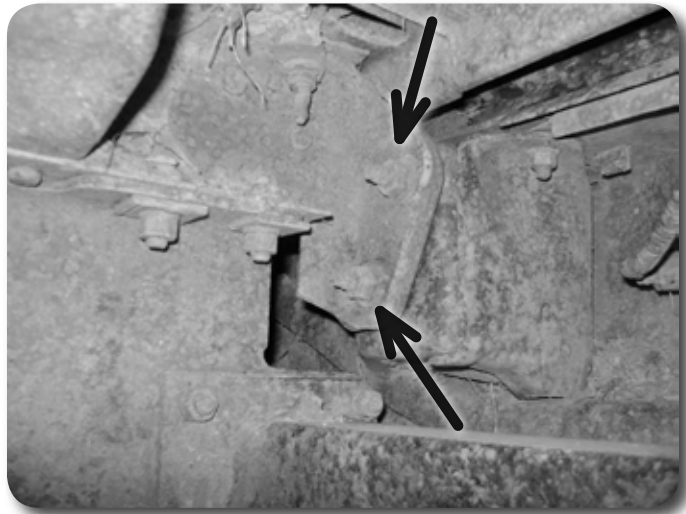

Figure 17
33. Remove the four nuts that mount the rear bumper to the frame and separate the bumper from the vehicle. **Figure 17** Save hardware.